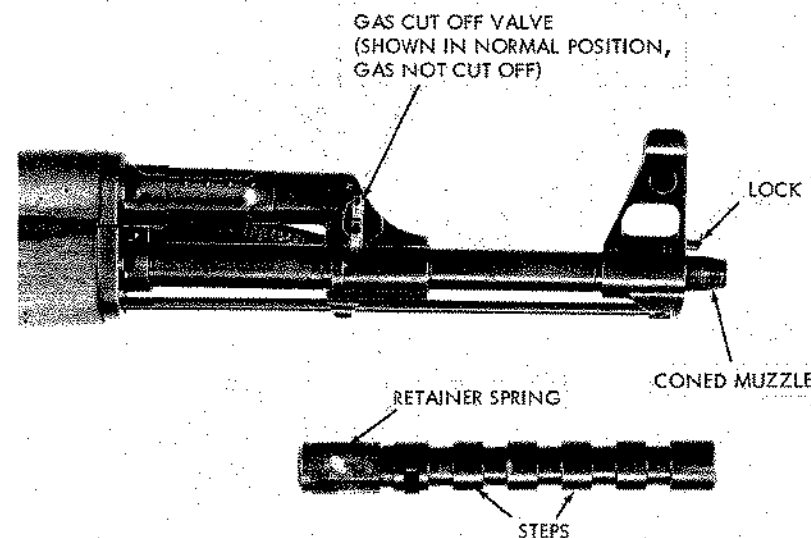

Figure 73. LON-1 grenade launcher.
j. The Polish LON-1 grenade launcher (fig 73) is usable only on rifles with a coned muzzle and gas cutoff. The muzzle nut is removed (left-hand thread) after depressing the muzzle nut lock, and the LON-1 launcher is screwed onto the muzzle. The launcher is hand tightened until it seats. Be sure to hold the modified lock (fig 73) fully in until the launcher is snug. Whenever the launcher is removed, the muzzle nut must be replaced to protect the threads.
cartridges must not be used, the use of any other cartridge will result in injury or death. Insert the magazine and load the rifle (para 89 a-d). Rotate the gas cutoff valve on the gas cylinder of the Polish PMK-DGN-60 (fig 73) so that the valve finger piece is parallel to the barrel, or erect the grenade sight of the Yugoslav M64 series rifle. This prevents damage to the rifle mechanism when grenades are being launched.